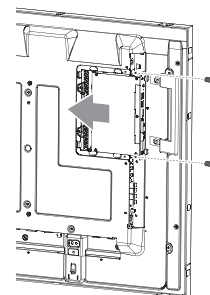

Figure 2
3. Insert option board in to the monitor (**Figure 2**).